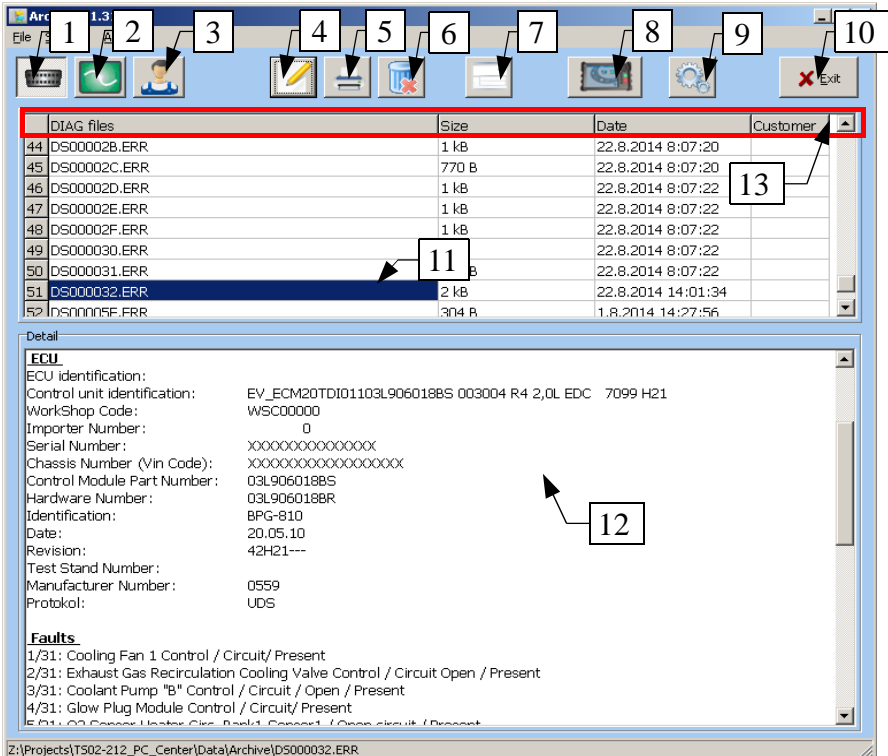
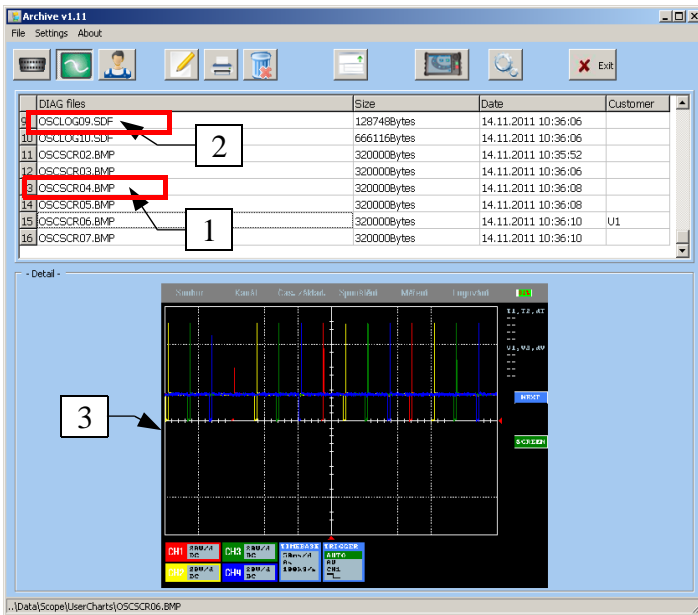
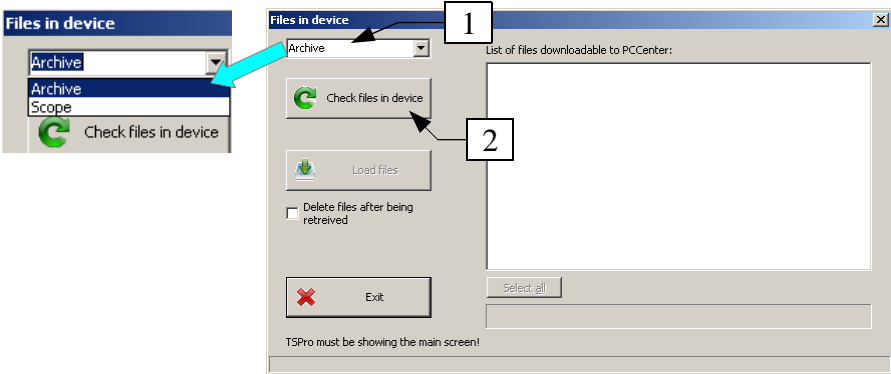
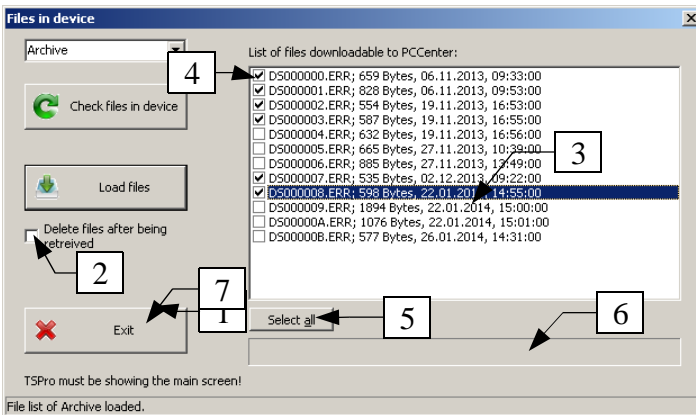

Figure 8.2
Figure 8.3
Figure 8.9
Figure 8.10
When it is opened, you can see the Archive application (Figure 8.2).
If you want to use the diagnostic data database, click on the Diagnosis icon (1). The list of saved records appears in the window (11) (Figure 8.2). Every item in this list contains the name and size of the file, date and time of creation and an identification number of the assigned customer (U1, U2, ...).
If you want to work with the database of oscilloscope measurements, click on the second icon from left (2). The list of stored files appears in the window (Figure 8.2 - 11). Every item contains the same identification info as the ones in the Diagnosis database. Oscilloscope database contains two types of records: *.BMP pictures (1) and *.SDF Logs (2). The content of a type (1) file appears as a picture after clicking on it (Figure 8.3 - 3).
To delete any record, find it in its database, mark it by clicking on it and then click on the sixth icon from left - Delete file (Figure 8.2 - 5). A dialog window with warning appears; here you can confirm deleting or abort it. If it is confirmed, the file is permanently deleted.
First you have to make sure that the TSPRO is connected to the PC properly (see paragraph TSPRO PCCenter settings). Then click on the eighth icon from the left - Show dialog for loading from the device (Figure 8.2). A new Files window appears in device (Figure 8.9). Now you have to select whether you want to download data from Archive (diagnosis) or Scope (oscilloscope). Then after clicking on the Check files in device a list of saved measurements appears (Figure 8.10).